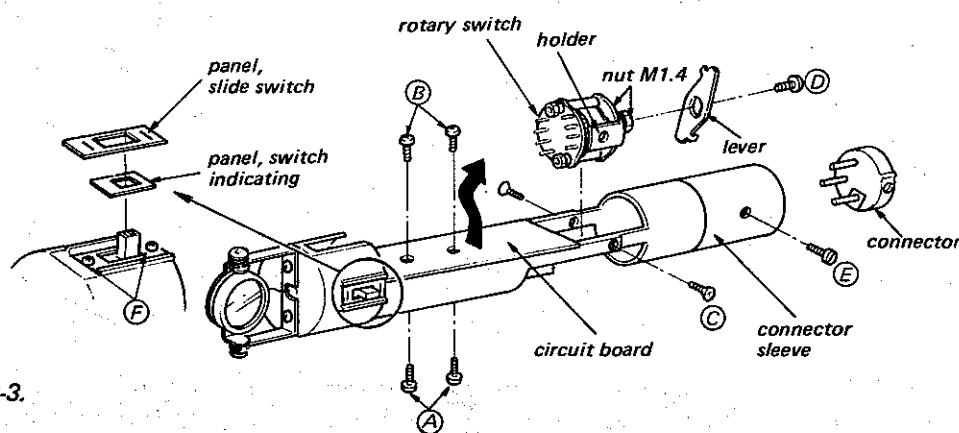

Fig. 2-3.
### 2-4. Pad and High-cut Switch Removal (Refer to Fig. 2-3.)
3. Remove the screws marked (F) in Fig. 2-3.
### 2-5. Circuit Board Removal (Refer to Fig. 2-3.)
2. Remove the two screws marked (B) in Fig. 2-3.
3. Remove the circuit board in the direction shown by the arrow in Fig. 2-3.
Note: By removing the two screws marked (A) in Fig. 2-3, the circuit board is removable along with bosses on the circuit board.
**2-6. Rotary Switch Removal (Refer to Fig. 2-3.)**
2. Remove the two screws marked **(C)** in Fig. 2-3 and take off the rotary switch out of the chassis.
3. Remove the lever by removing the screw marked **(D)** in Fig. 2-3.
**2-7. Connector Removal (Refer to Fig. 2-3.)**
2. Remove the screw marked **(E)** in Fig. 2-3.